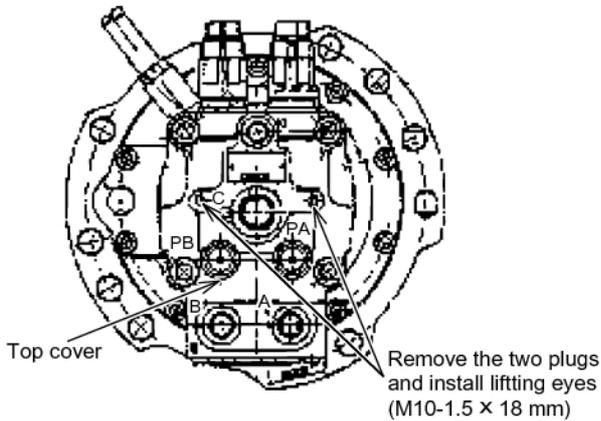

Fig. 8-10
4. Remove two plugs, as indicated in Fig. 8-10, and install 2 x M10-1.5 x 18 mm eye bolts.